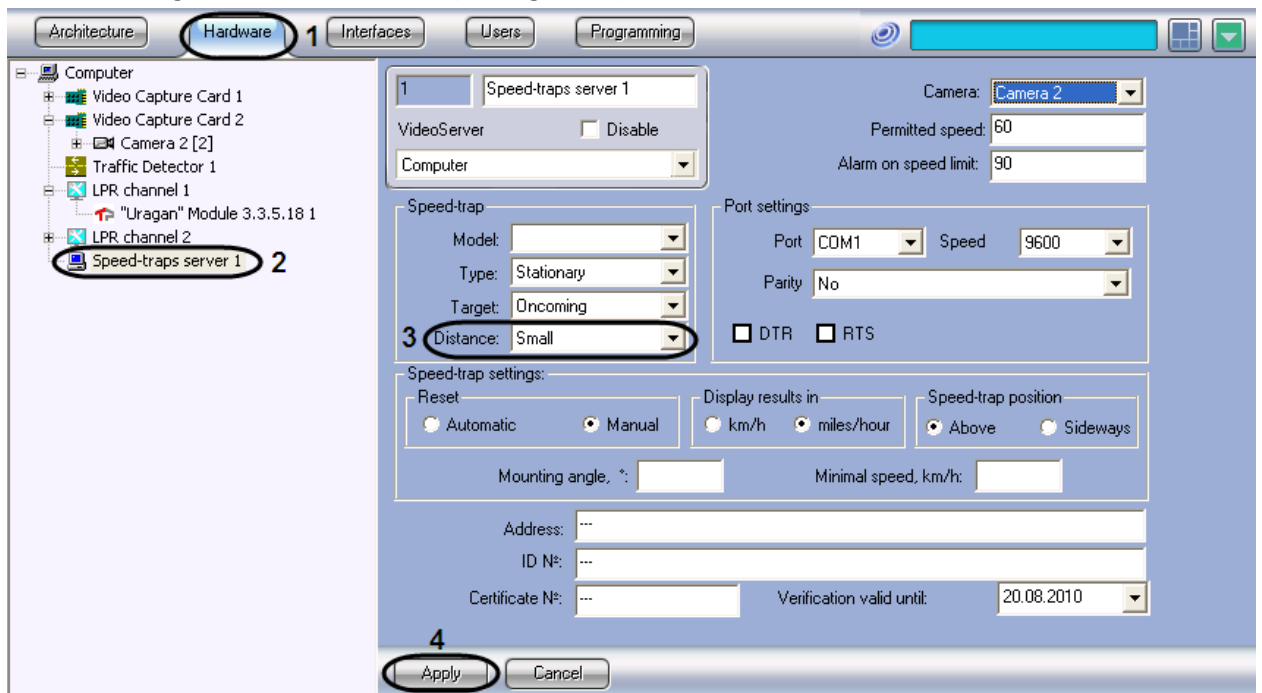

Fig. 7.3-7 Selecting the vehicle speed detection distance
- In the object tree on the left side of the Hardware tab, select the Speed-trap server object representing the Radar module to be set up. The settings panel of the selected object will open on the right side of the window (see Fig. 7.3-7).